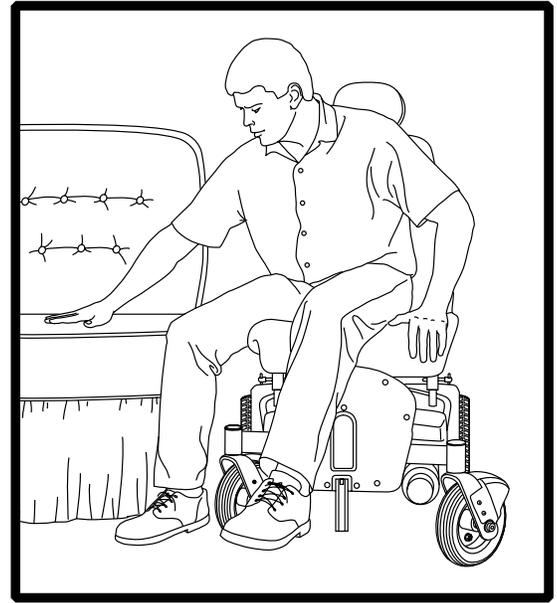

Figure 3. Transfers
- Turn both castor wheels toward the transfer destination to improve power chair stability during transfer. See figure 3.